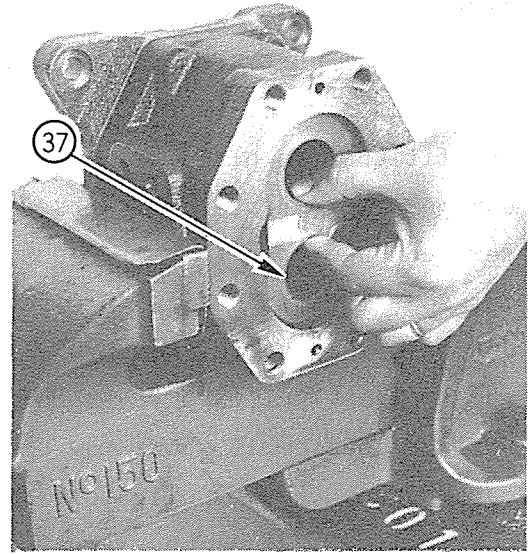

Fig. 7
- 3) Removing wear plate (37) at body side, as shown in Fig. 7, draw pedestals (31) and (32) out.